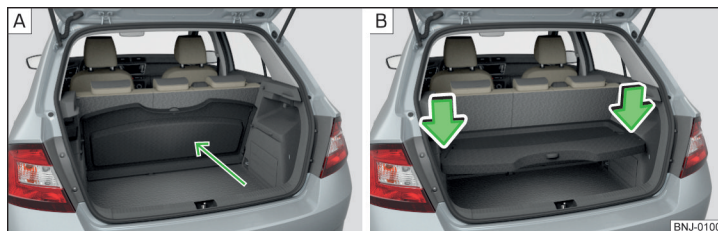

Fig. 96 Luggage compartment cover: stowed behind the rear seats/in the lower position
The cover can be removed from the vehicle and stowed behind the rear seat backrests if required » Fig. 96 on page 78.
The luggage compartment cover behind the rear seat backrests can be stored » Fig. 96 - **A** or in the lower position » Fig. 96 - **B**.
- Press the top of the cover in the arrow direction » Fig. 96 - **B**.